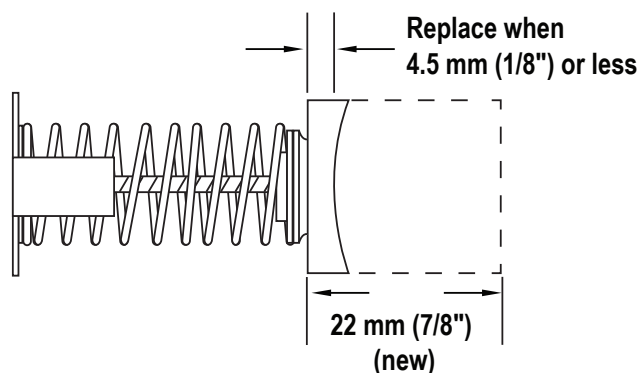

Figure 11. Brush Inspection
3. The brush assemblies must be replaced if they are 4.5mm (1/8") long or less. See Figure 11.